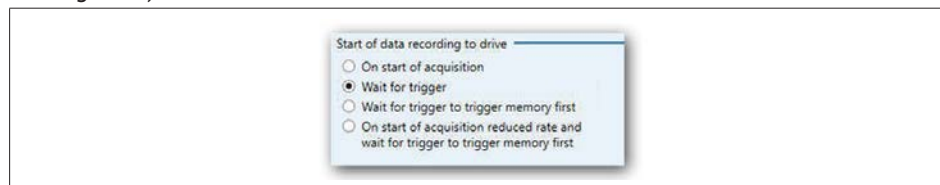

Fig. 9.20 Start of data recording to drive
- A In **Start of data recording to drive** area, select the **Wait for trigger** check box (see Fig. 9.20)